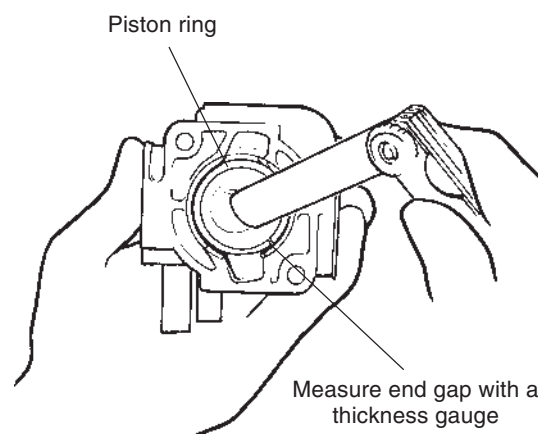

Figure 7.10 Measuring ring end gap
**STEP 2.** Measure piston ring thickness and width with a micrometer, and use a thickness gauge to measure piston ring end-gap with the individual rings installed about halfway into the cylinder bore (Figure 7.10).